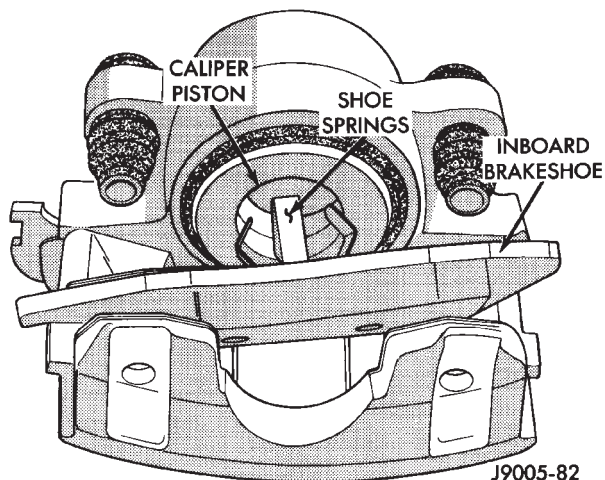
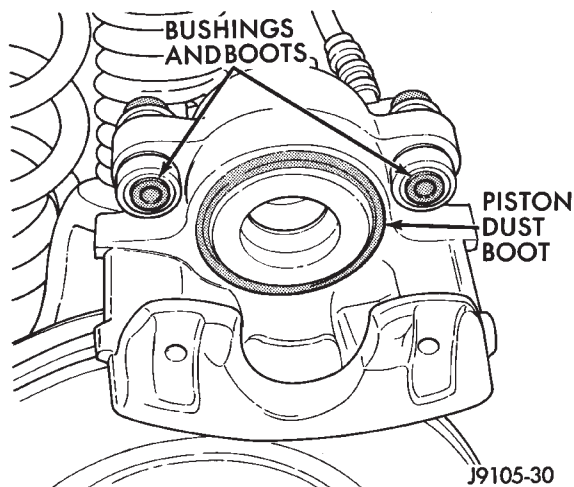

Fig. 6 Removing Inboard Brakeshoe
Fig. 7 Caliper Dust Boot And Bushing Locations
- (9) Remove inboard shoe. Grasp ends of shoe and tilt shoe outward to release springs from caliper piston (Fig. 6). Then remove shoe from caliper.
(10) Support caliper on box, mechanics stool, or similar device. **Do not allow brake hose to support caliper weight.**
(11) Wipe caliper off with shop rags or towels. **Do not use compressed air. Compressed air can unseat dust boot and force dirt into piston bore.**
(12) Inspect condition of caliper piston dust boot (Fig. 7). Overhaul caliper if there is evidence of leakage past piston and dust boot. Then inspect caliper bushings and boots (Fig. 7). Replace boots if torn or cut. If bushings or boots are damaged, replace them.
(1) Lubricate caliper mounting bolts and bushings (Fig. 7) with GE 661 or Dow 111 silicone grease.